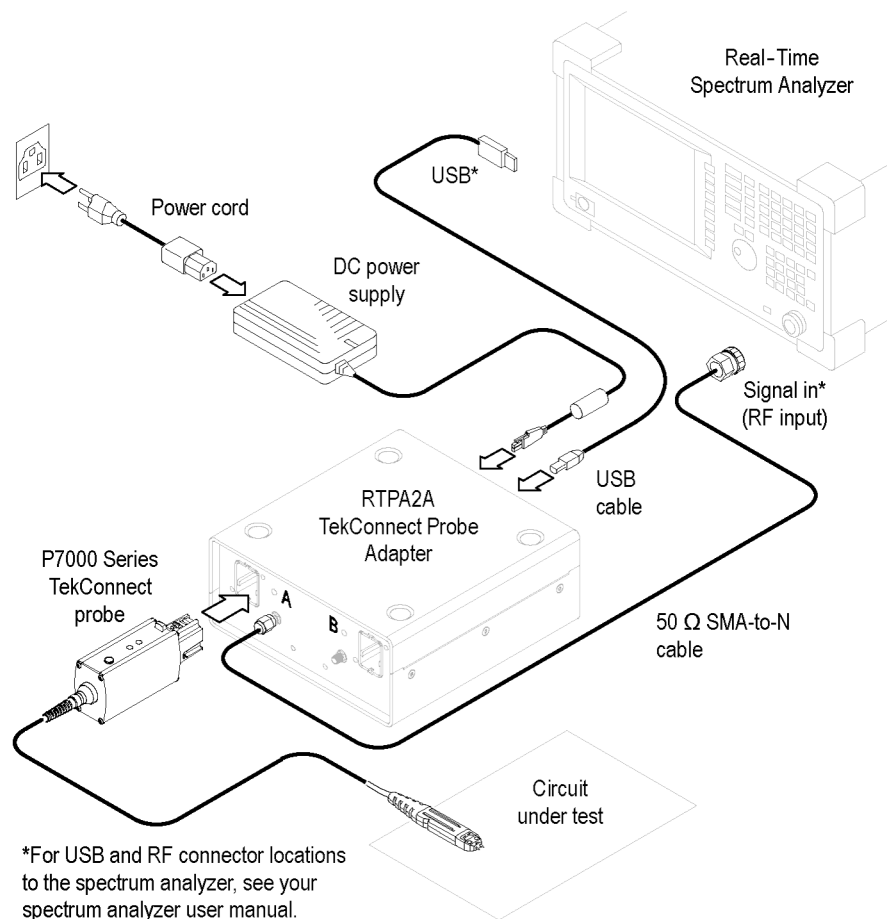

Figure 5: Connecting the RTPA2A components
2. Connect the probe adapter as shown. (See Figure 5.) If necessary, refer to *Installing the Probe Adapter* for more information. (See page 6, *Installing the Probe Adapter*.)